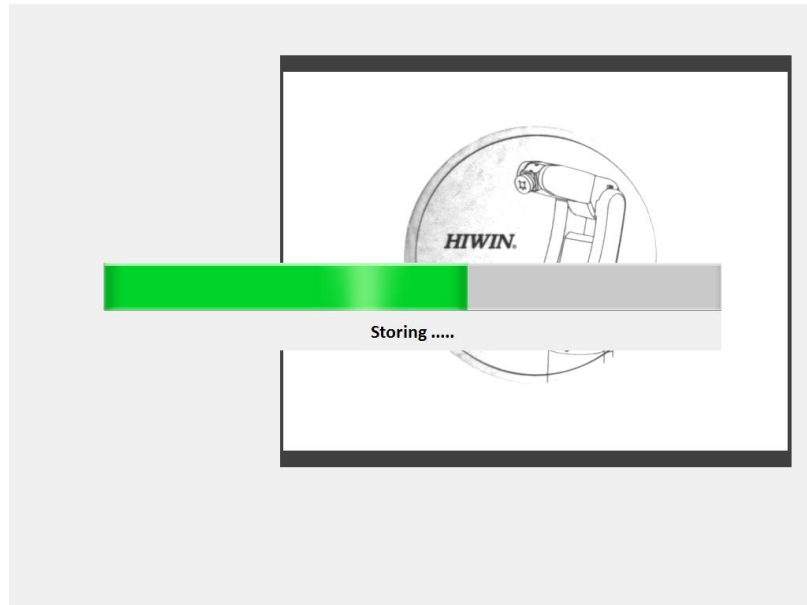

Figure 9-7 Program shutdown progress display
- (3). As shown in Figure 9-7, the program will display the shutdown progress. After the program is closed, the program ends.